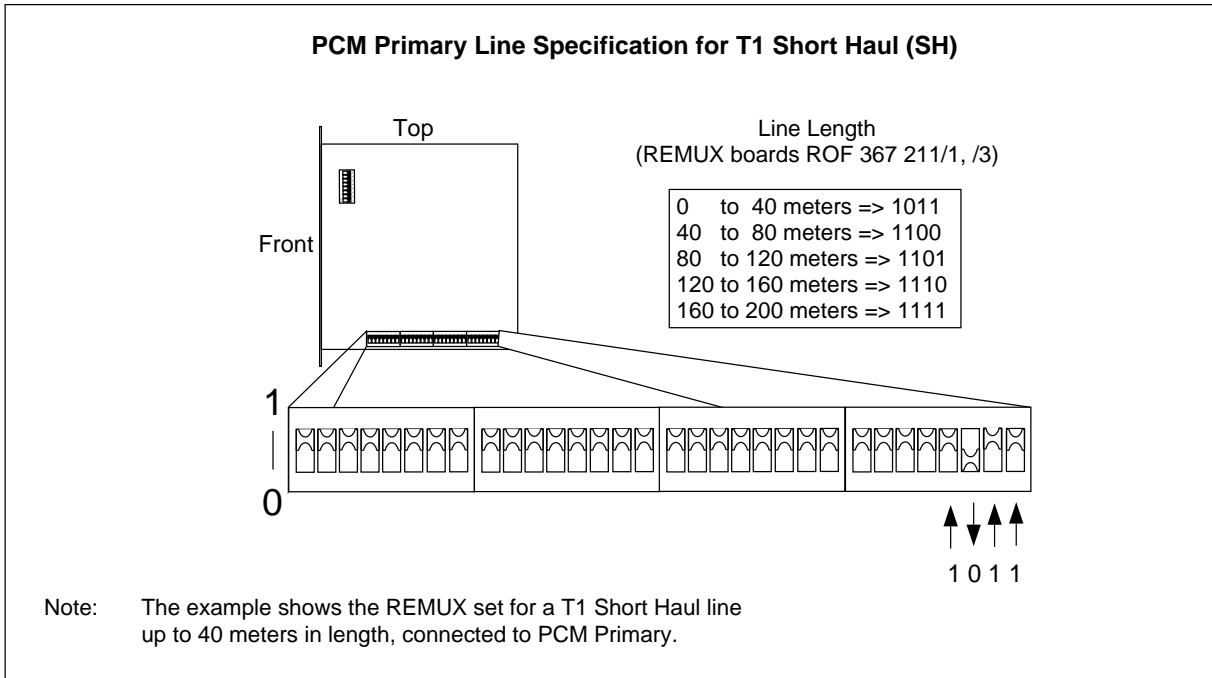

Figure 4-19. Settings for the PCM Primary Line Specification, T1 Short Haul
- If line length is used (T1 Short Haul), see Figure 4-19 on page 4-38.